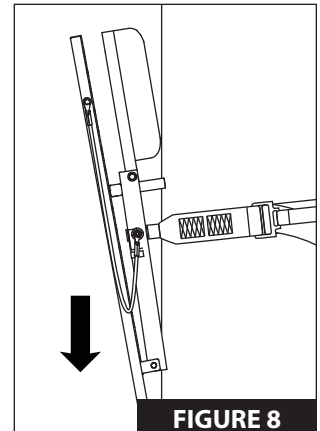

FIGURE 8
d. While platform is still folded up, push treestand in a downward direction as shown by arrow to further tighten strap. **SEE FIGURE 8.**